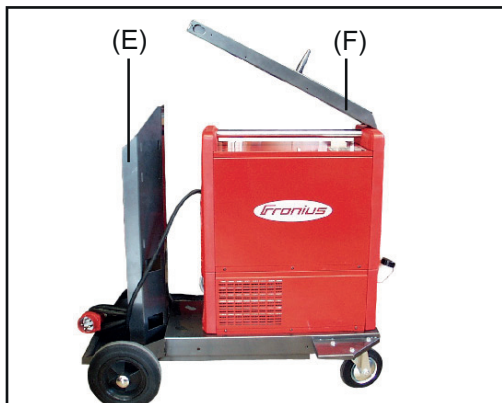

Fig.6 Detaching wirefeeder mount
- 3 Unscrew wirefeeder mount (F) from the gas cylinder holder (E) (Fig.6)
- 4 Pivot wirefeeder mount (F) upwards, unhook from the power source and remove (Fig.6)
- 5 Remove safety strap from the gas cylinder holder (E)